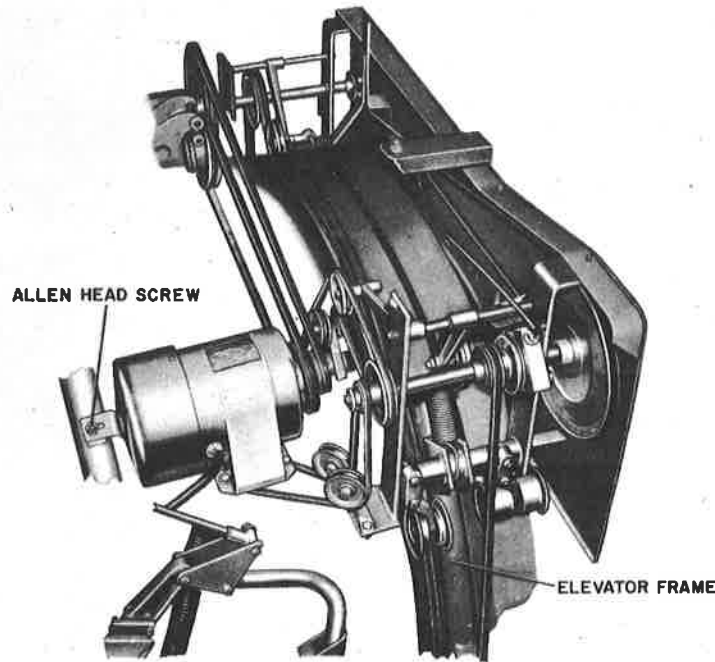

Figure 78. Elevator Frame Adjustment
23. ELEVATOR FRAME ADJUSTMENT. (FIGURE 78)